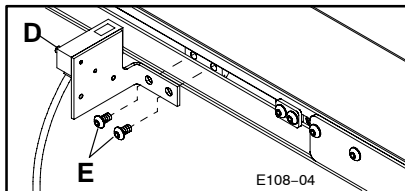

Figure 4: Photo-Eye Attachment Detail
- b. Refer to Figure 4 and attach the Photo-Eye with Mounting Bracket to the Drop-in T-bar, using the M6 x 12 mm Button Head Cap Screws (E). Tighten Screws with the 4 mm Hex Key Wrench (I) provided.